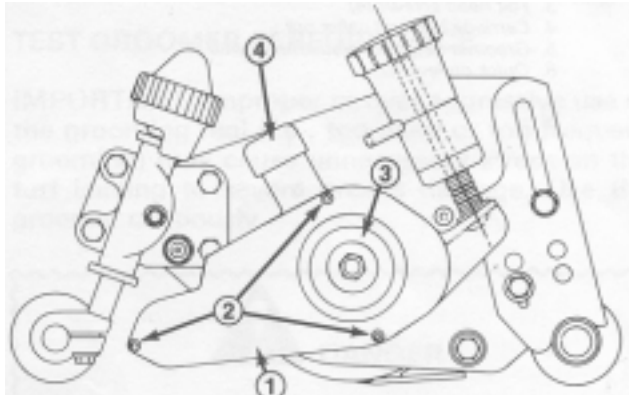
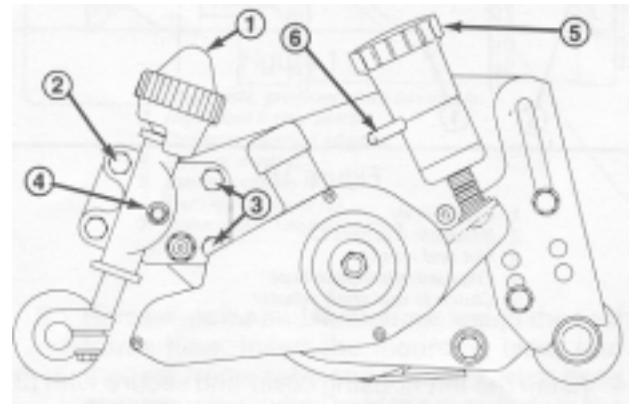

Figure 17
Figure 18
16. Install the left housing cover and secure with (3) socket head screws and lockwashers (Fig. 17).
17. Install and secure the clutch engagement knob with (2) allen head screws (Fig. 17).
18. Mount the right and left roller extension assemblies over the roller shaft. Use flat head screws and locknuts in the top holes and hex head capscrews and locknuts in the lower holes to secure the roller extension plates to the side plates (Fig. 18).
Next, fit the height of cut brackets against the extension plates and secure loosely with capscrews and lockwashers (Fig. 18). Then, insert a carriage bolt into each plate and height of cut bracket from the inside, install a pallet nut from the outside and tighten the assembly. Ensure the pallet nut is properly seated before tightening (Fig. 18). Tighten the remaining fasteners to secure the assemblies to the machine.
20. Check the assembly. Rotate both quick up levers to raise the grooming reel into transport position (Fig. 18). Hold the clutch snubber down and rotate the clutch knob clockwise to disengage the clutch (Fig. 17). Correct any problems and recheck assembly.
2. Hold the clutch snubber down and disengage the clutch by turning the clutch knob clockwise (Fig. 17). Use the Quick Up Levers (both sides) to lower the grooming reel into the grooming position (Fig. 18).
The grooming reel should be disengaged at all times except during grooming. To operate the clutch, depress the clutch snubber and engage the clutch by turning the clutch knob counter-clockwise, turn the clutch knob clockwise to disengage the clutch (Fig. 17).
Important When transporting the traction unit be sure to disengage the groomer clutch and raise the grooming reel into its transport (raised) position. To raise the grooming reel, rotate the right and left quick up levers so they face to the rear (Fig. 18). To lower the grooming reel, turn the quick up levers forward and engage the clutch.